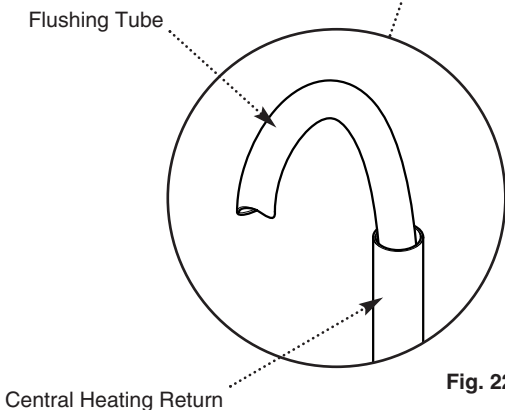

Fig. 22
1. Connect a tube to the central heating flow or return pipe (Fig. 22).